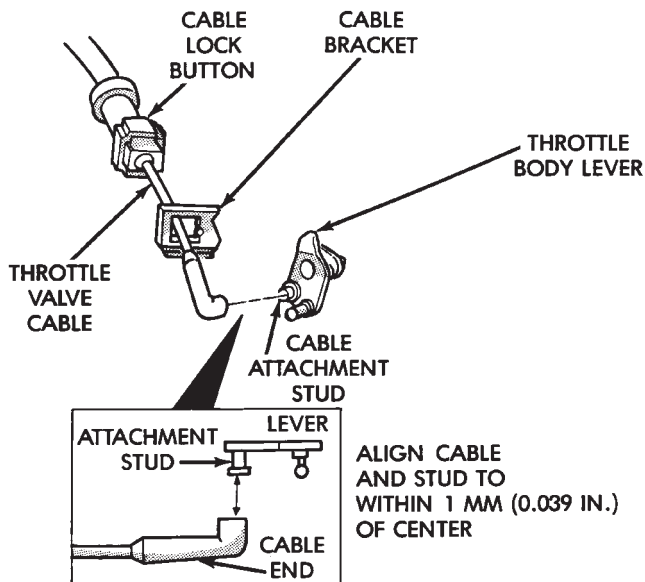

Fig. 4 Throttle Cable Adjustment Components
- Slide cable off attachment stud on throttle body lever (Fig. 4).
- Compare position of cable end to attachment stud on throttle body lever (Fig. 4):
- Press cable lock button inward to release cable (Fig. 4). Lock button only has to move about 2 mm (0.070 in.) to release cable in adjuster head.